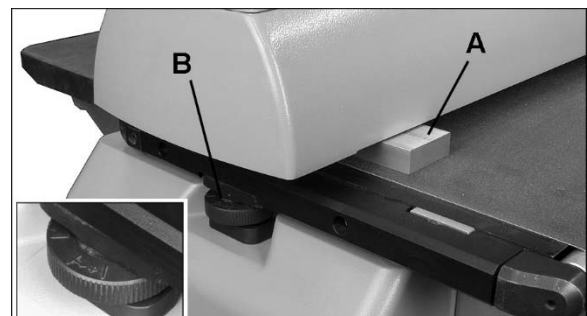

Figure 13
3. Insert gauge (A, Figure 13) between drum and conveyor bed at outboard side of drum.
7. Turn adjustment dial (B, Figure 13) to raise or lower outboard end of table. Follow directional marks on dial (+ to raise).
3. If a ridge is visible where the drum overlaps, lower table at outboard end slightly by turning dial (B, Figure 13).